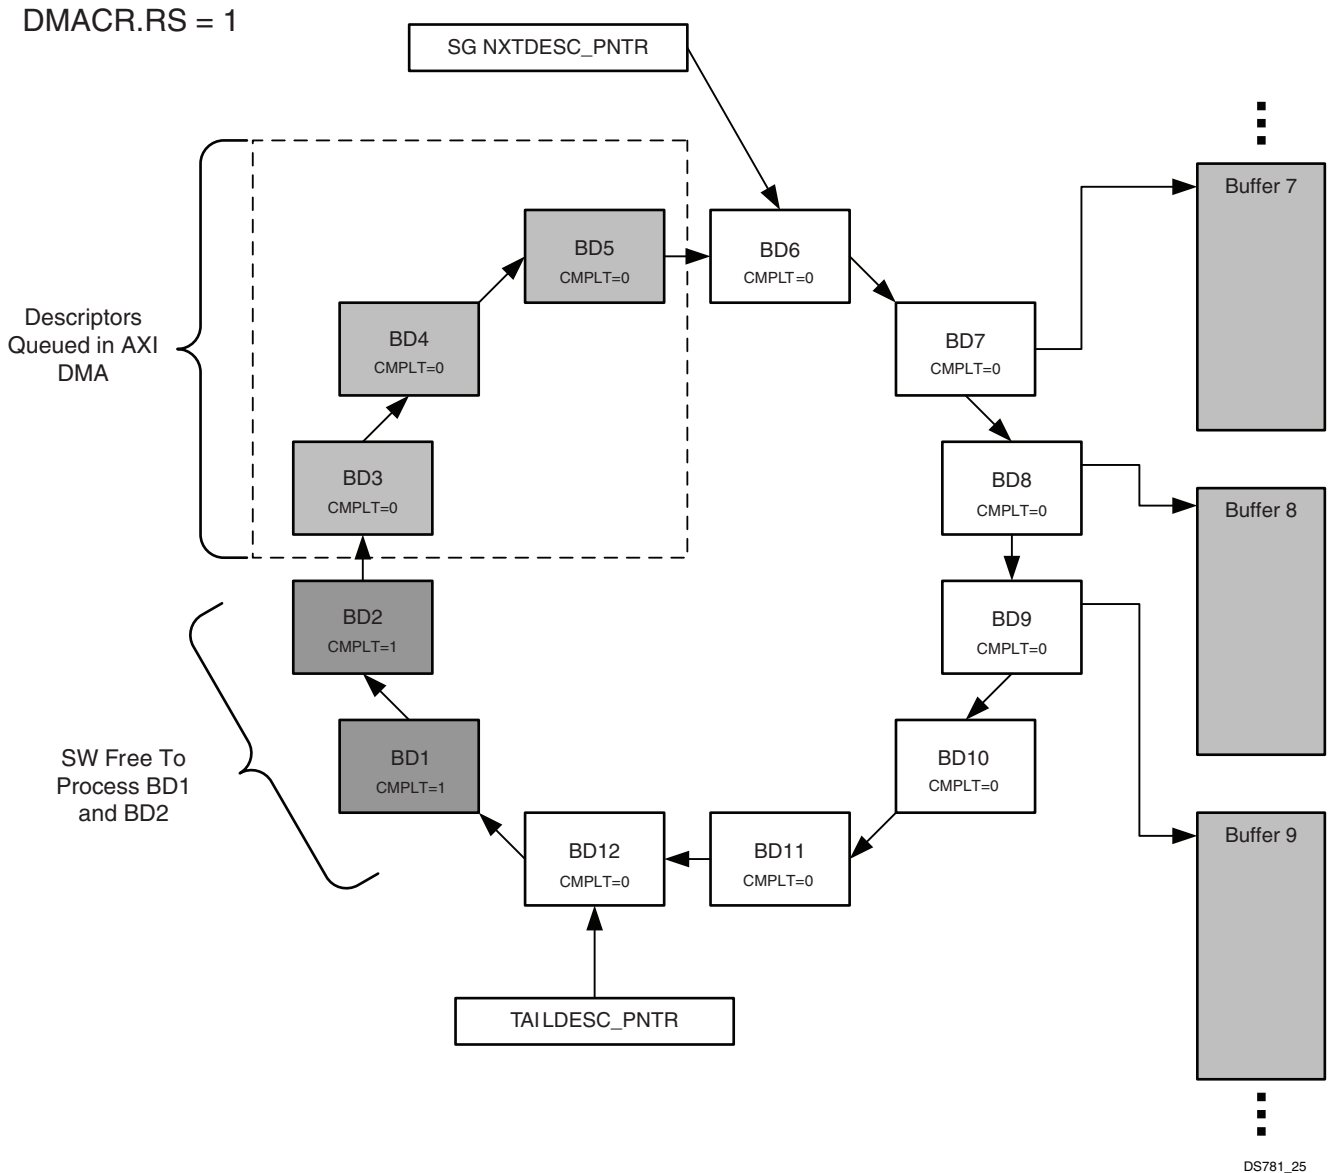

Figure 4-15: Continued Execution
- Continued execution (DMACR.RS=1), as shown in Figure 4-15.